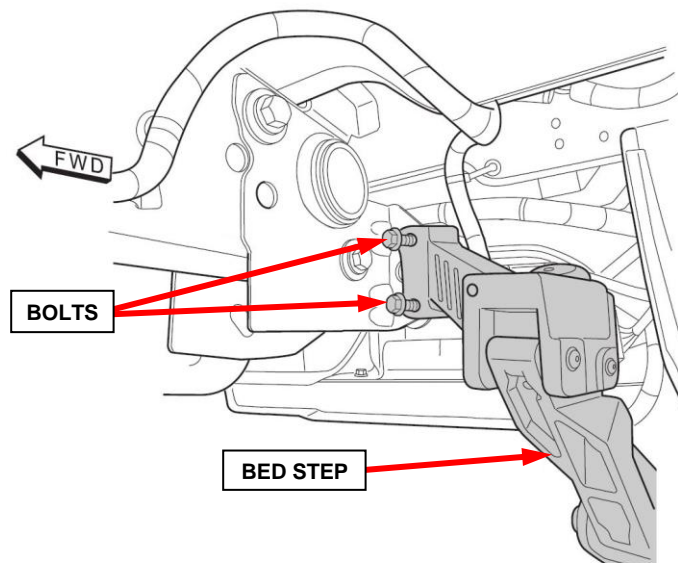

Figure 2 – Bed Step Bolts
4. Loosen but do not remove the two bolts securing the bed step (Figure 2).